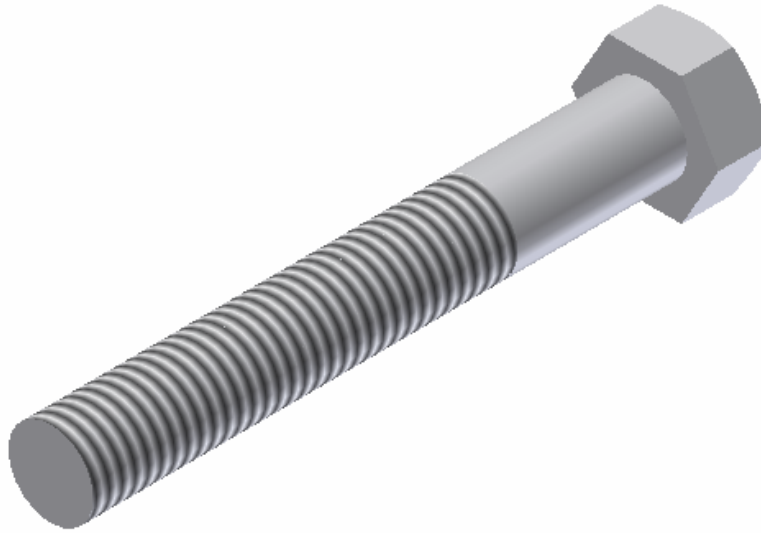

Figure 21
- Set the Pitch to 1/2-13 UNC. Click **OK** and the threads should appear as Figure 21.